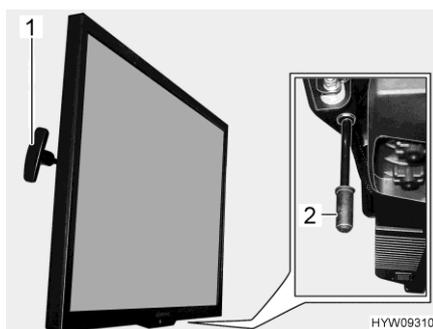

Fig. 87 Flat screen
- Pull and hold handle (Fig. 87,1). The flat screen is unlocked.
- Pull down the handle (Fig. 87,2) and hold it there. The flat screen is unlocked.